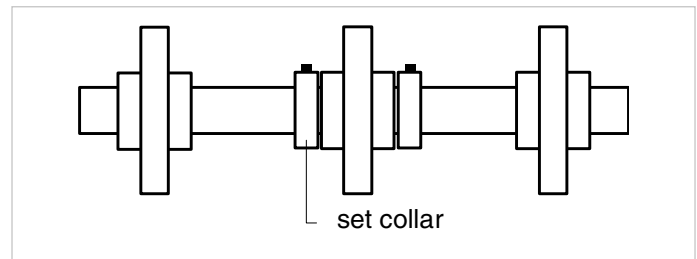

Figure 330: Type: set screws and set collars
- Set screws and set collars (Fig. 330) – mainly used with round shafts on keyways.